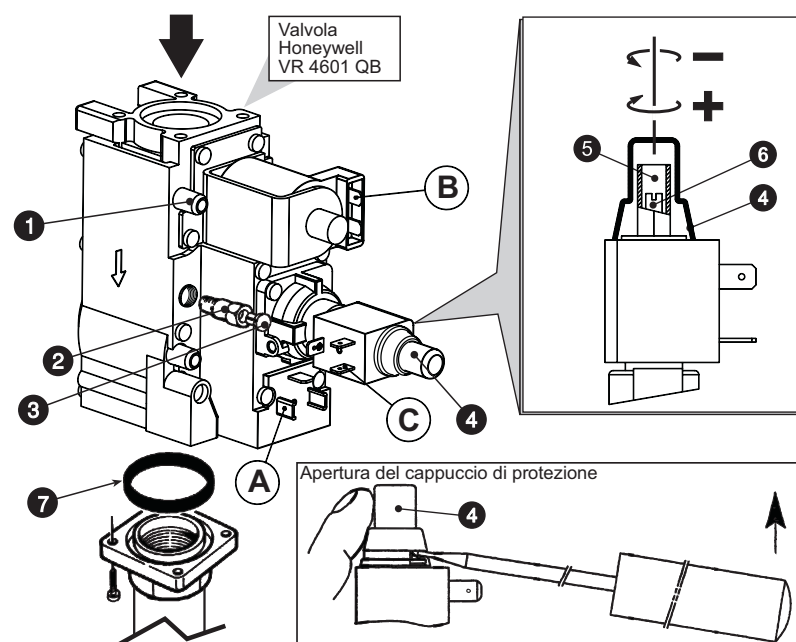

fig. 8 -
The operations for adjusting the pressure are done with the boiler working, using the pressure regulator on the 2-stage gas valves (see fig. 8).
3. Remove the pressure regulator protection cap 4 in fig. 8.
1. Turn the control thermostat knob slowly clockwise to the 1st click; the gas valve will thus be fed only on connections A and B (see fig. 8).
2. Turn the screw 6 in fig. 8, checking that the pressure matches the values in the technical data table in par. 4.3.
1. Turn the control thermostat knob to maximum; the gas valve will now be feed on connections A, B and C (see fig. 8).
2. Turn the screw 5 in fig. 8, checking that the pressure matches the values in the technical data table in par. 4.3.
2. Remove the small cap 3 (fig. 8) from the gas valve, screw the ignition "STEP" regulator 2 (contained in the conversion kit) onto the valve and refit the cap 3 on the regulator.
Carry out the same operations described above, making sure to remove the ignition "STEP" regulator 2 in fig. 8 the gas valve; the cap 3 in fig. 8 must be fitted directly on the valve.